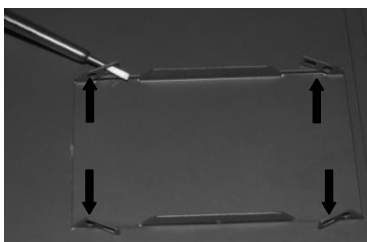

Figure 2-3 Disassemble Keypad
- Disassemble keypad: Put your fingers in finger slots on the top of keypad, press down keypad slightly and pull it outward (see Figure 2-3).